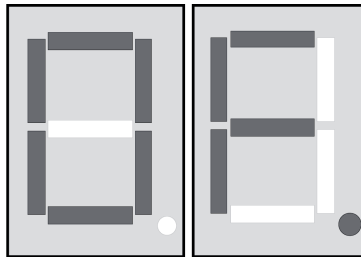

Figure 7: Indication OF – „Overflow“
- i** Cancel operation: Press both buttons ▲ and ▼ (12) until the right-hand decimal point goes out in the display.
- i** If all 100 memory slots are occupied, the display shows **OF** (Figure 7).